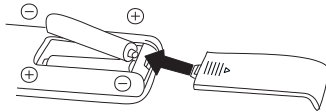

Fig 2
- 2 Insert the batteries, and make sure that the batteries are placed in correct polarity and as shown in the Fig 2.